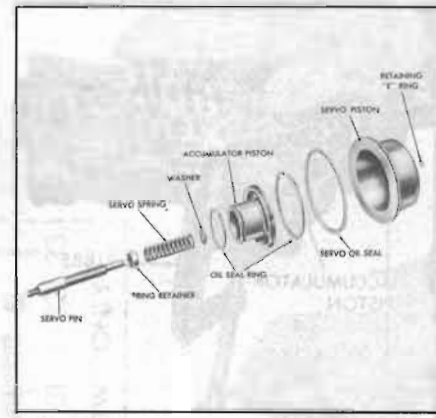

Figure 74-605
1. Install spring retainer, spring and washer on band apply pin. See Figure 74-605.